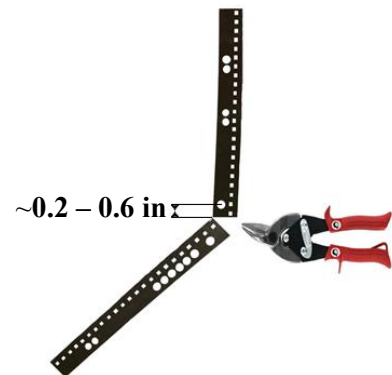

Figure 5: Excess Tape Cutoff
9. Cut the tape between ~0.2 – 0.6 inches down from the center of the hole that the bottom carabiner will go through. See Figure 5